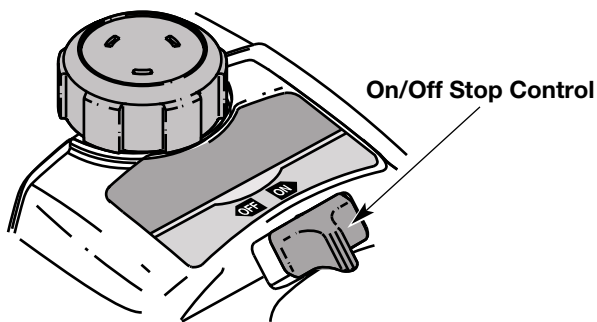
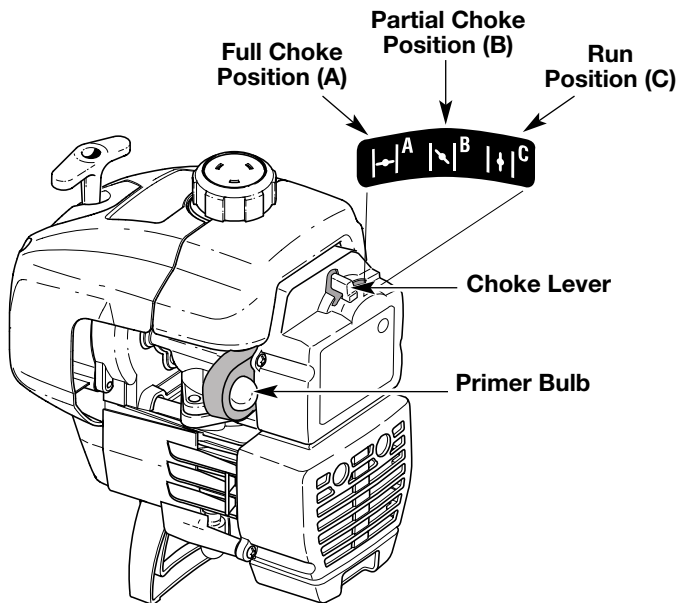

Fig. 4
Fig. 5
2. Put the On/Off Stop Control in the **ON** position (Fig. 4).
3. Fully press and release primer bulb slowly 5 to 7 times. Fuel should be visible in the bulb (Fig. 5). If fuel is not visible, press three (3) more times, or until it is.
4. Place the choke lever in the **FULL** choke position (A) (Fig. 5).
6. Place the choke lever in the **PARTIAL** choke position (B) (Fig. 5).
**NOTE:** If the engine floods while trying to start, place the choke lever in the **RUN** position (C) (Fig. 5). Squeeze the throttle control. Pull the starter rope briskly. The engine should start within three (3) to eight (8) pulls.
9. Squeeze the throttle control to warm up engine for 5 to 10 seconds. Place the choke lever in the **RUN** position (C) (Fig. 5).
**NOTE:** Choking is unnecessary when starting a warm engine. Put the On/Off Stop Control in the **ON** position (Fig. 4), and start in **PARTIAL** Choke position (B) (Fig. 5).
2. Put the On/Off Stop Control in the **OFF** position (Fig. 4).